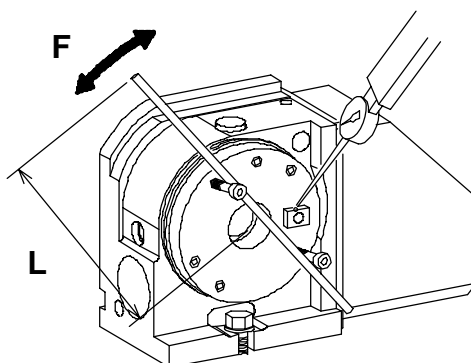

Fig.2
10-1. Measuring the Backlash of the Worm Gear [See Fig.2]
- 2) Turn the table slowly by using the tap on the surface of the table as shown in Fig.2. And read the value of the dial gauge when tooth of the worm wheel makes contact with a worm shaft. At this time, the rotating torque added to the table is as follows. Then, rotate the table on the same conditions to the opposite direction. The difference of these measurements is the amount of backlash.